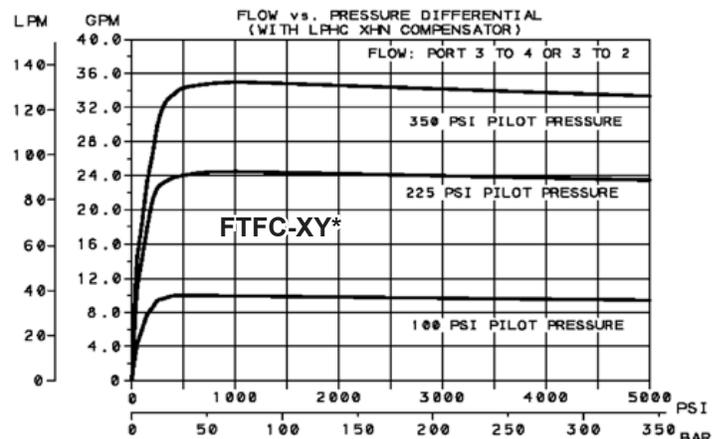

Figure 8
- To increase flow accuracy, an external modulating element (pressure compensator) can be used to maintain a constant pressure drop (200 psi is recommended) across port 3 to 2 or 3 to 4. The resulting output flow is relatively constant when varying inlet and load pressures are present. A Sun LP\_C-XHN (“H” = 200-psi [14-bar] spring) is recommended (See **Figure 8**)